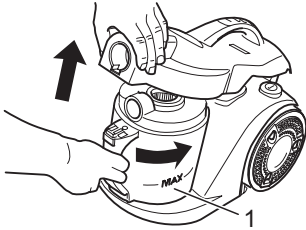

Fig. 16
■ Empty the dust container at the latest when the "Max" mark (Fig. 16/1) has been reached or when the vacuum cleaner is losing suction power.
1. Press the release buttons and open the housing cover (Fig. 16).
2. Turn the dust container a little to the right (Fig. 16) to unlock it.